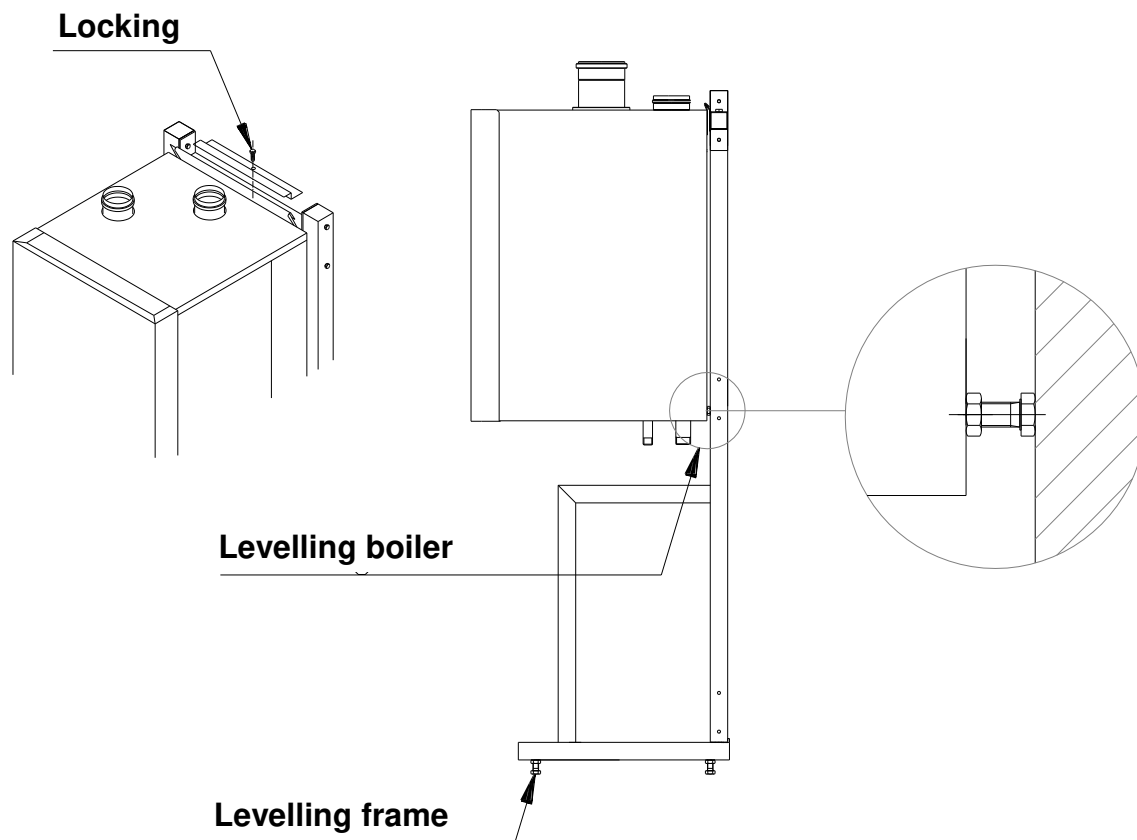

Figure 9.1 Mounting details
1. Before mounting the boiler on the frame, ensure that the frame is level both horizontally and vertically. If necessary adjust with the adjusting bolts on the lower side of the frame (see Figure 9.1).
The boilers must hang backwards slightly ( $1^\circ \pm 0.5^\circ$ ). If necessary, adjust with the adjusting bolts on the lower rear side of the back panel (see Figure 9.1). When the adjusting bolts are **not** sufficient, the space behind the bolts needs to be filled to achieve the correct position.